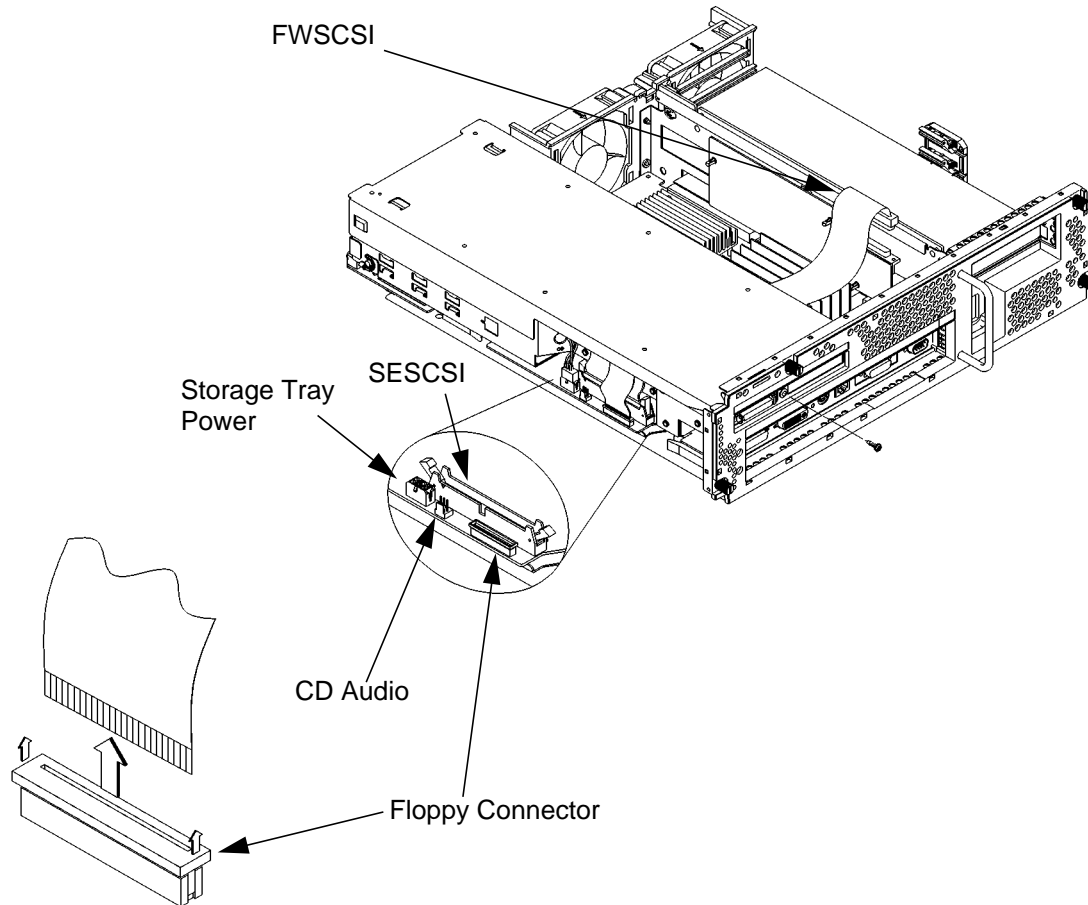

Figure 58
- 3 Disconnect the cables from the system board and the optional fast, wide SCSI adapter, as shown in Figure 58.
- 4 Remove the storage tray retaining screw, as shown in Figure 58.